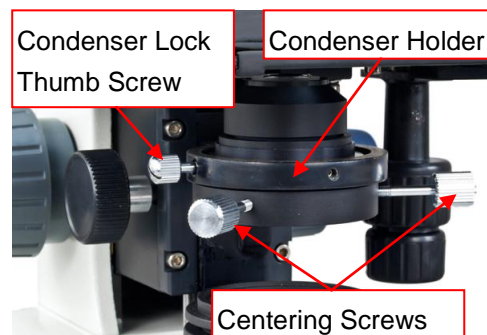

Fig.11
- Install the dry darkfield condenser and tighten the condenser lock thumb screw on the condenser holder (see **Fig. 11**).